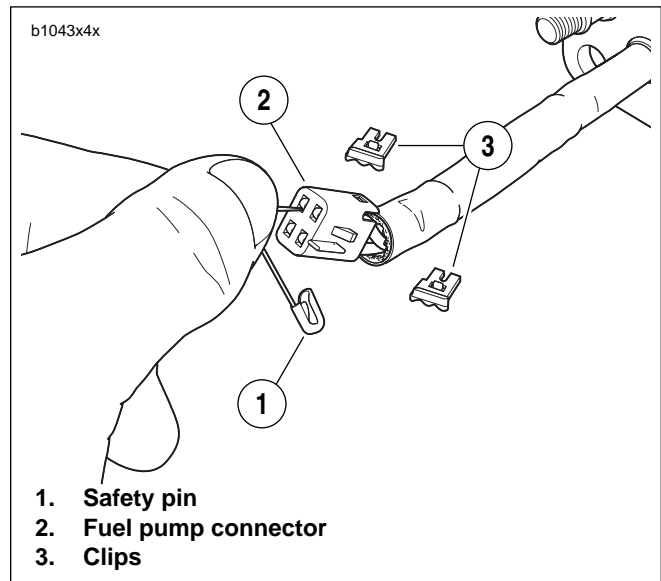

Figure 4-100. Fuel Pump Connector Disassembly
- a. See Figure 4-100. Remove connector clips (3).
- b. Insert push pin/safety pin (1), into connector as shown.